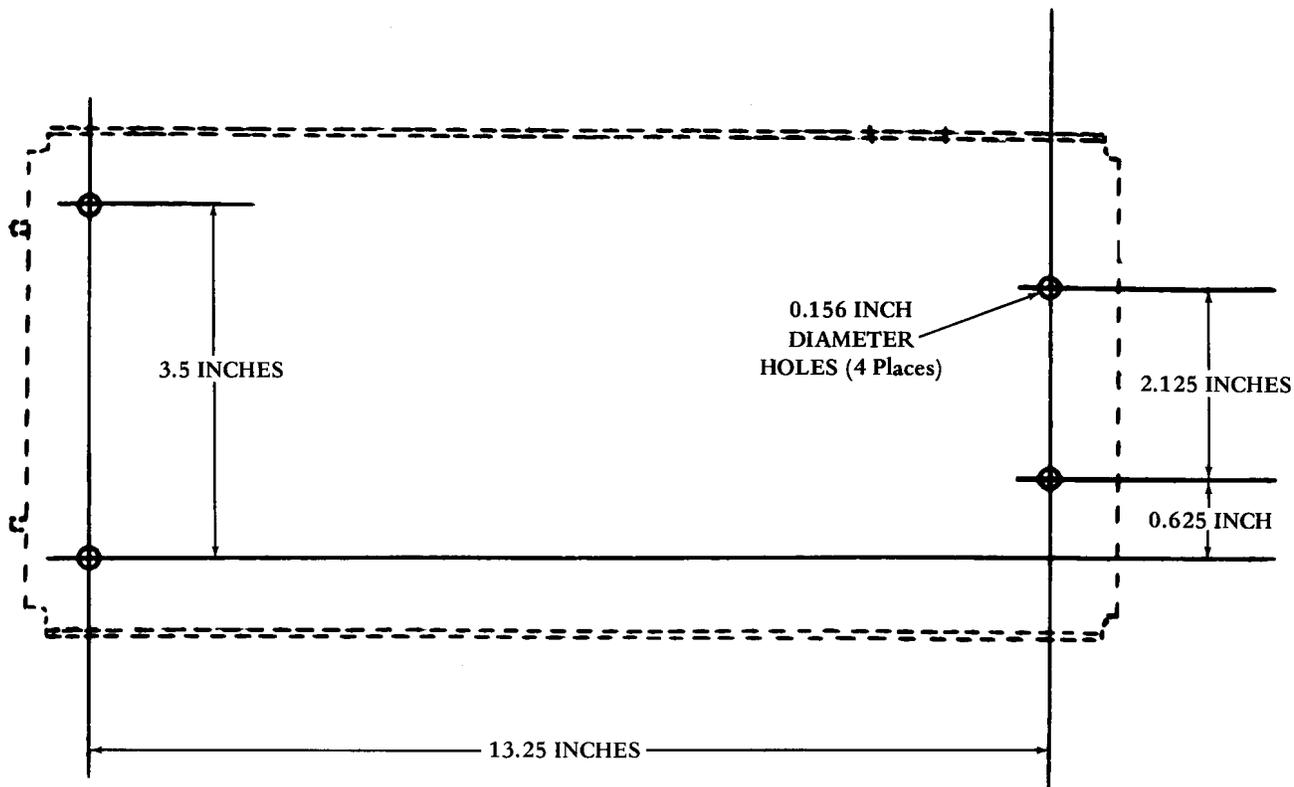

Figure 2 - SA120 Base Plate Assembly
1.10 The overall dimensions of the SA120 (Figure 2) are as follows: Length – 14-1/2 inches; width – 5-1/4 inches; and depth – 3-1/2 inches. Mounting brackets are supplied for mounting to a 19-inch vertical relay rack as provided in Model 35 cabinets. Otherwise, it may be mounted in any position (adjacent shelf, table, or wall), and since it has no controls or indicators located at the chassis, it does not have to be accessible to the operator.
3.02 The SA120, without the bypass switch or indicator assembly, may be mounted wherever there is available space within the limits of its three-wire signal line cable and ac power cord. It has no controls and therefore does not have to be accessible to the operator. The SA120 may be mounted on a 19-inch relay rack by two TP320000 mounting straps, hung on a wall by means of its base plate mounting holes (Figure 2), or set on a shelf or table. Refer to the following figures for mounting suggestions: